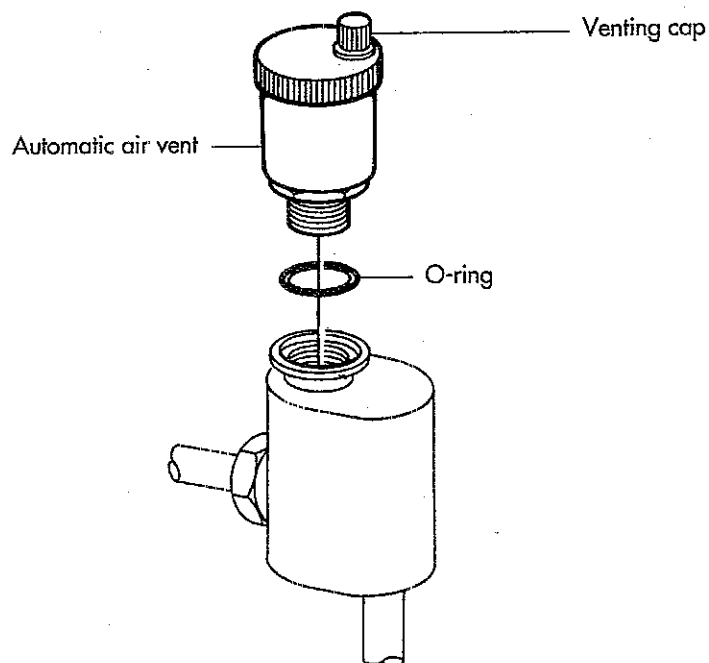

Fig. 41
- d) Re-assemble in reverse order ensuring the «O» ring is fitted (fig. 41) and that the venting cap is loose.